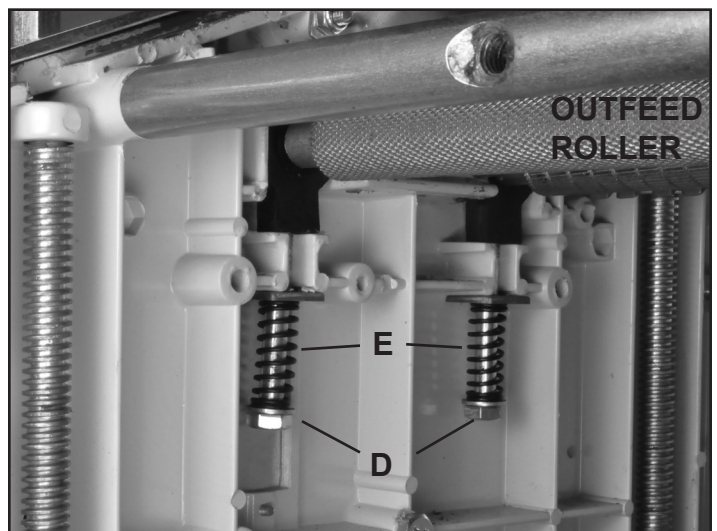

FIG. 25
2. Under the Feed Rollers, the long Hex Head Bolts (#147, D) hold the compression Springs (#145, E) in place, and control the pressure the rollers exert onto the lumber being moved through the planer for surfacing. The bolts can be tightened or loosened with a 13mm wrench. FIG. 25.